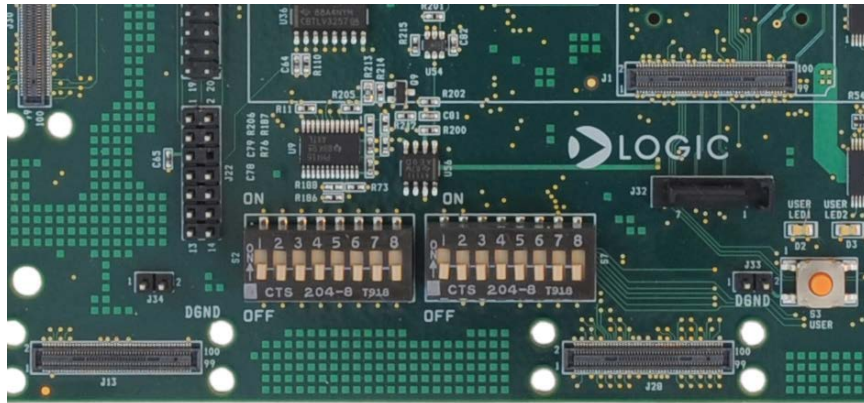

Figure 2.1: Development Kit DIP Switch Settings
1. Ensure all the switches on the S7 DIP switch block on the development kit baseboard are set to the OFF position (see Figure 2.1 below).